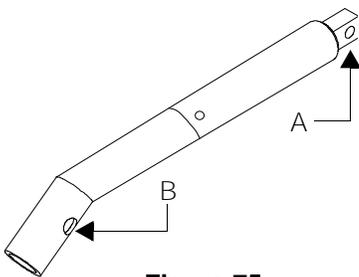

Figure 75
19. When the actuator fully retracts, place the actuator extender (P/N 3-0063-182-01-6) over the hood actuator shaft. Refer to Figure 75.
20. Attach the top of the extender to the chamber bracket using the pin removed from the top of the hood actuator. Place the extender into the chamber bracket and insert the pin to join the extender to the bracket. Refer to "A" in Figure 75.
21. Using a 19 mm wrench, secure the extender to the top of the retracted actuator with the M12 x 70 mm Hex bolt and M12 Hex nut (provided). Refer to "B" in Figure 75.